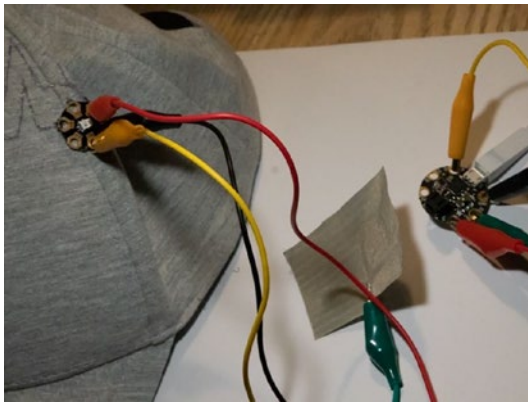

Figure 4-29. Test your sewing, using crocodile wires to connect the Gemma
- Now test your work by connecting three crocodile clips from the first LED to the Gemma M0 as we did previously (Figure 4-29). You can now also connect some conductive fabric to the conductive pins with a crocodile clip. Rerun your script from Thonny again and make sure that everything works as expected, that is, the LEDs should light up the same way they did previously when you touched the capacitive pins of the Gemma M0 board. If they don't, check that your sewing is secure and there are no short circuits and try again.